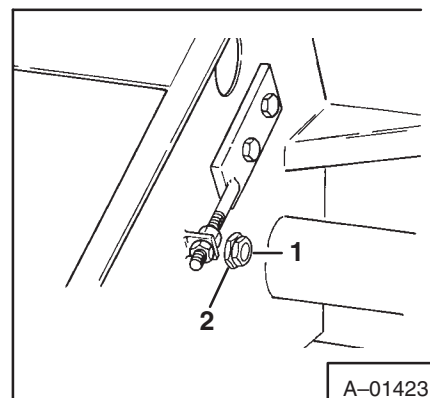

Fig. 97 Lower Jackshaft Nut
3. Remove the 15/16” hex nut from the end of the jackshaft (Fig. 97, Item 1).
4. Remove the large washer (Fig. 97, Item 2) and “O” ring from the shaft.